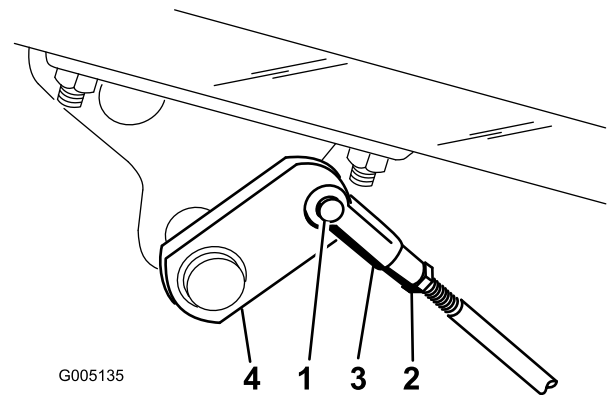

Figure 39
2. If the brakes do not lock equally, disconnect the brake rods by removing the cotter pin and clevis pin (Figure 39).
3. Loosen the jam nut and adjust the clevis accordingly (Figure 39).
4. Assemble the clevis to the brake shaft (Figure 39).